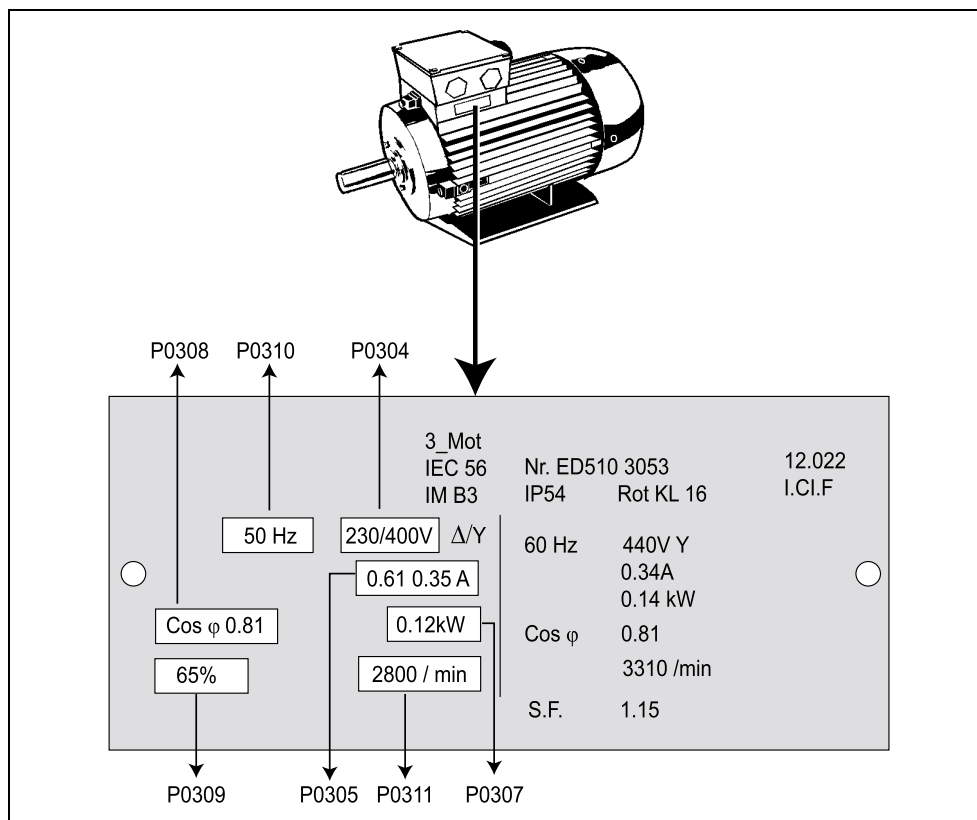

Figure 3-7 Typical Motor Rating Plate Example
3. The inverter is programmed at the factory for standard applications on Siemens four-pole standard motors that have the same power rating as the inverters. When using other motors it is necessary to enter the specifications from the motor's rating plate. See Figure 3-7 for details on how to read motor data.